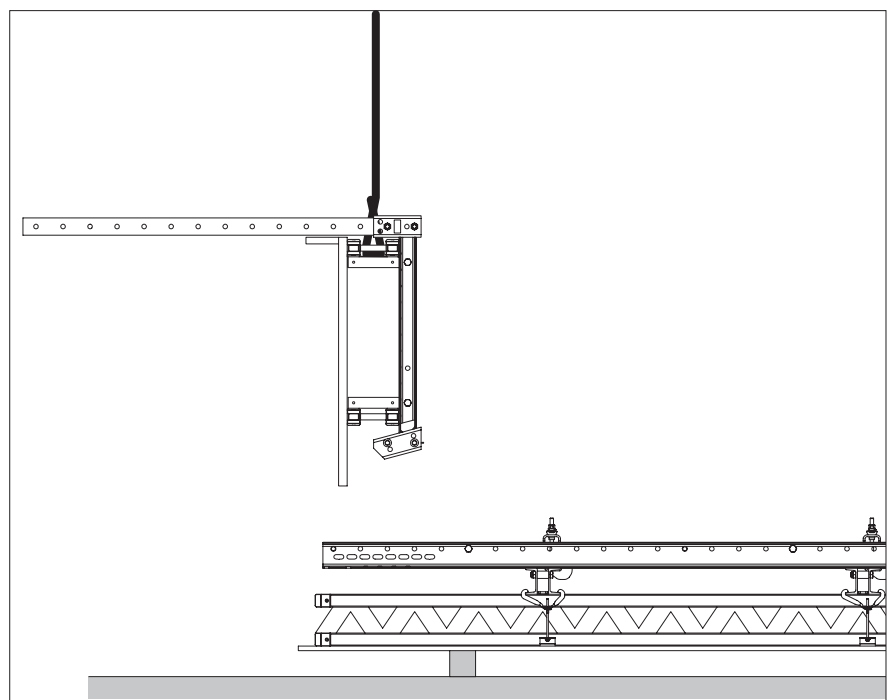

Fig. C1.10
5. Attach the concreting platform on the platform beam to the crane and transport it to the formwork. (Fig. C1.10)